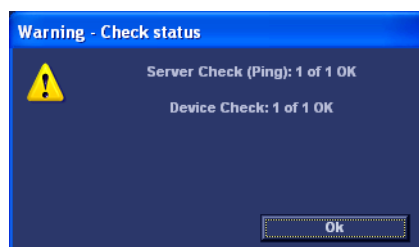

Figure 3-84 Test (Check) Passed
- If the test pass, a pop-up dialog, reporting the results as OK, is displayed, see Figure 3-84 "Test \(Check\) Passed" on page 3-90.